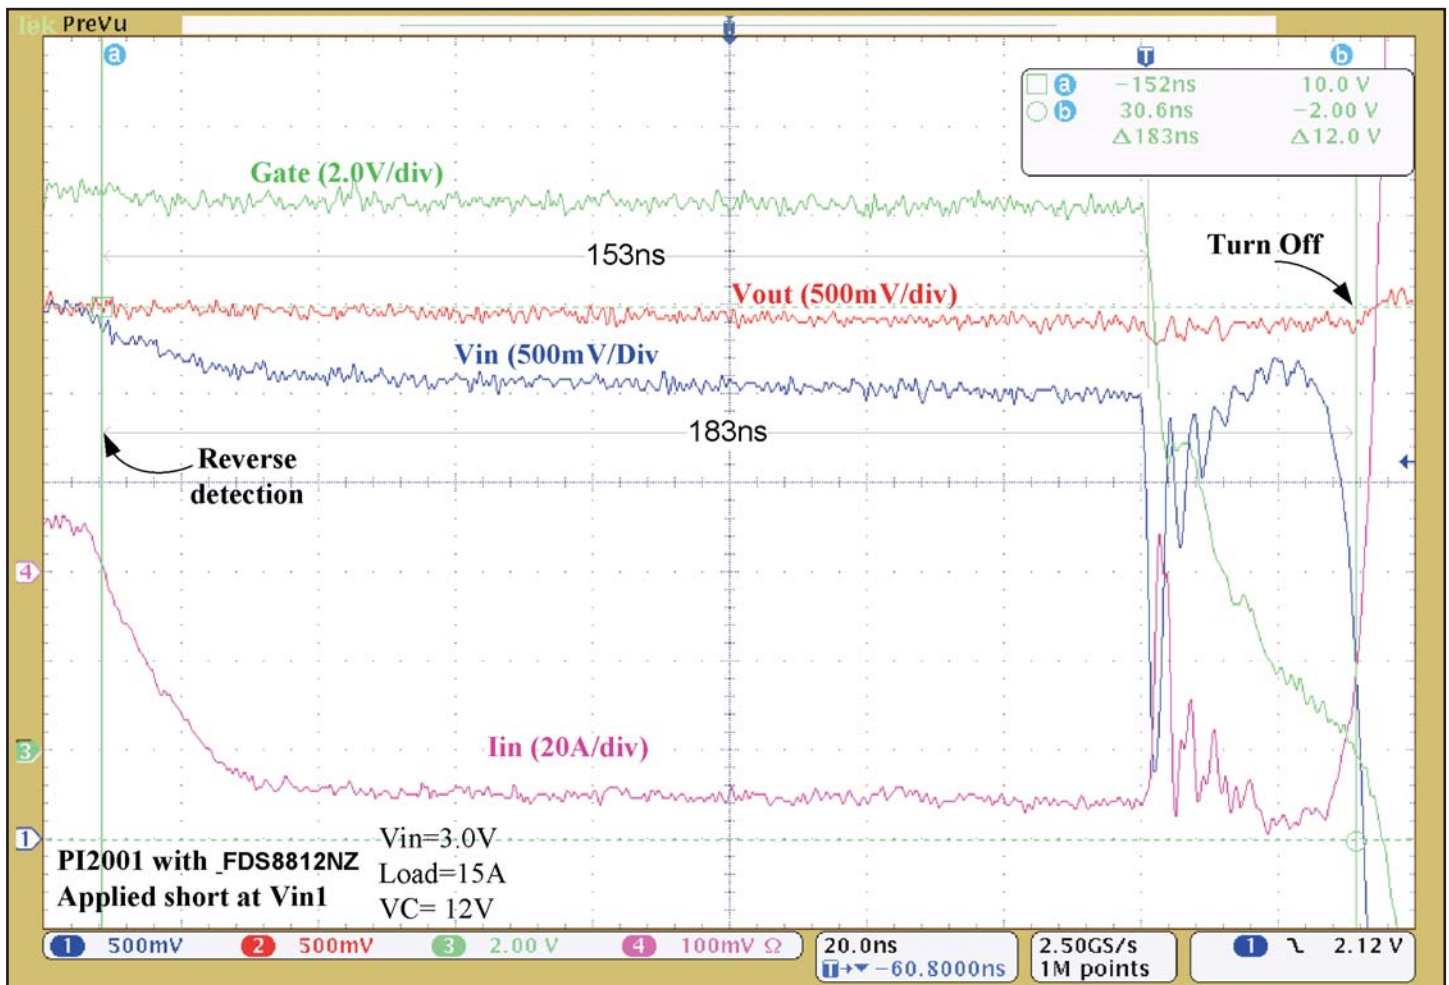

Figure 6 – Plot of PI2001 response time to reverse current detection
7.3 Apply a short at one of the inputs (Vin1 or Vin2) when the evaluation board is configured with both controllers (U1 and U2) in master mode. The short can be applied electronically using a MOSFET connected between Vin and Gnd or simply by connecting Vin to Gnd. Then measure the response time between when the short is applied and the MOSFET is disconnected (or turned off). An example for PI2001 response time to an input short circuit is shown in Figure 6.